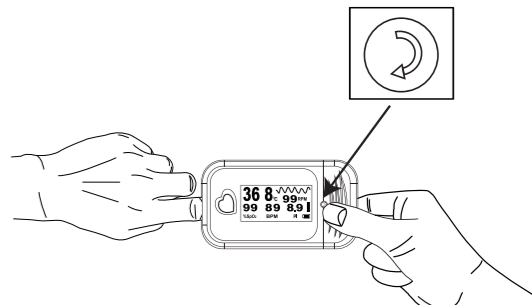

Figure 5
- Press the Screen turn switch, See figure 5.